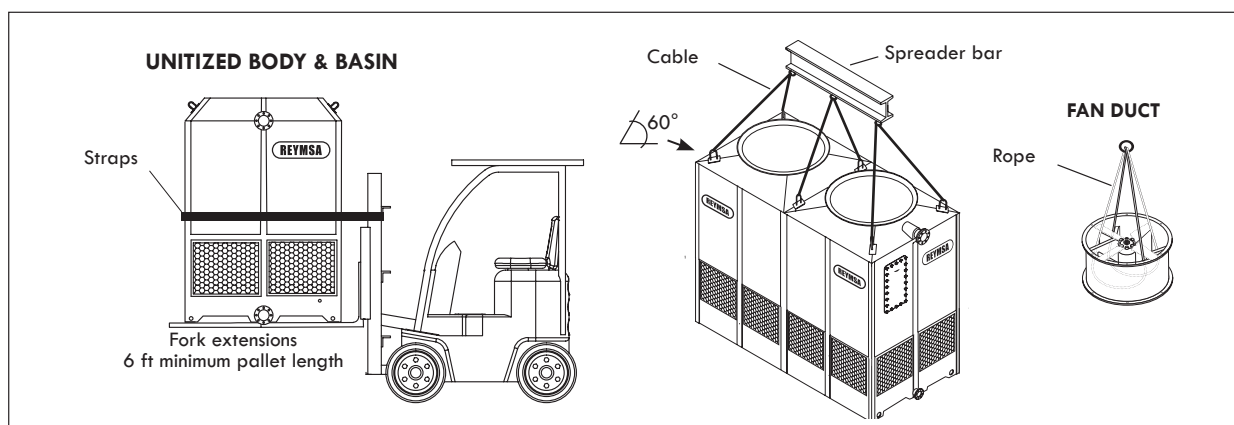

Figure A-38: Double Fan Tower fork and crane lifting
- B. After verifying the equipment is received in proper condition, proceed to unload it piece by piece, with a crane or forklift of the appropriate capacity (see Figure A-38 for reference).
- D. For crane lifting, it's recommended to use a minimum lifting angle of 60° between the strap and the horizontal. The Tower has U-bolts for lifting, one on each corner. Place the straps through the u-bolts (as shown in Figure A-38) and use a spreader bar to avoid damage on the upper edge of the Tower. Don't balance until tensing the straps.